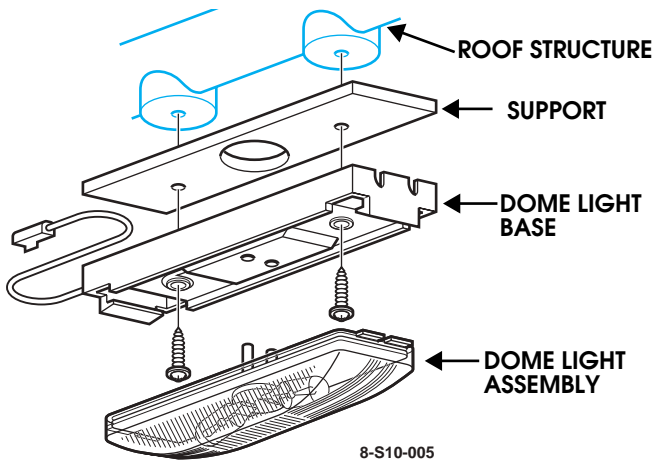

Figure 10-165: Domelight Replacement (Model 90)
1. Using a screwdriver, snap the dome light assembly from its base (Figure 10-165)